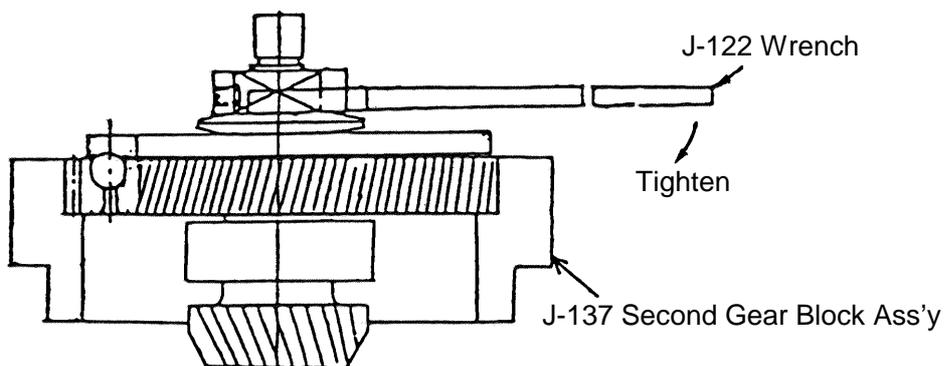
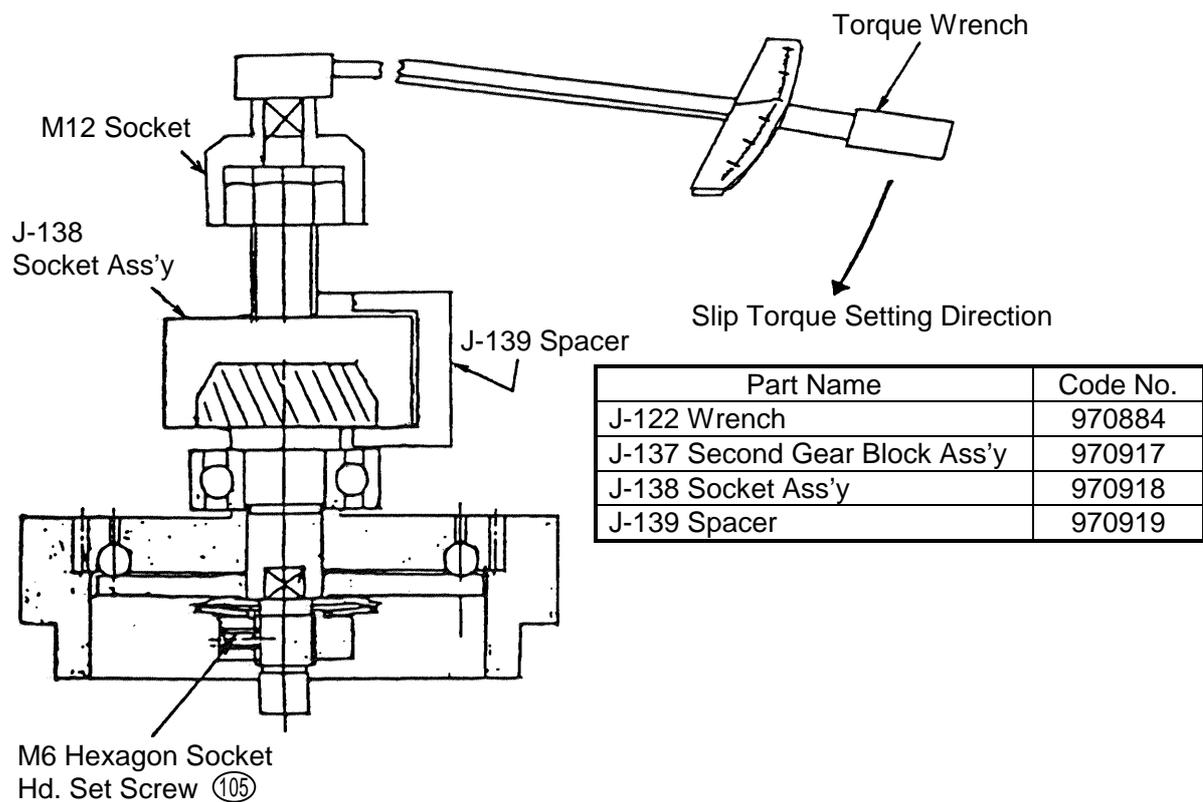

Fig. 9
Fig. 10
Secure a J-137 Second Gear Block Ass'y in a vise, mount the Second Gear (100) in the block ass'y as illustrated in Fig. 9, and tighten the Special Nut (104) with a J-122 Wrench. Next, turn the unit upside down in the block ass'y so that the Second Gear (100) is positioned as illustrated in Fig. 10, and fit a J-138 Socket Ass'y and J-139 Spacer to the Third Pinion (97). Finally, using an appropriate torque wrench as indicated, adjust the slip torque of the Third Pinion (97) to 3.8 - 4.1 kg-m (330 - 356 lbs-in) through adjustment of the tightness of the Special Nut.